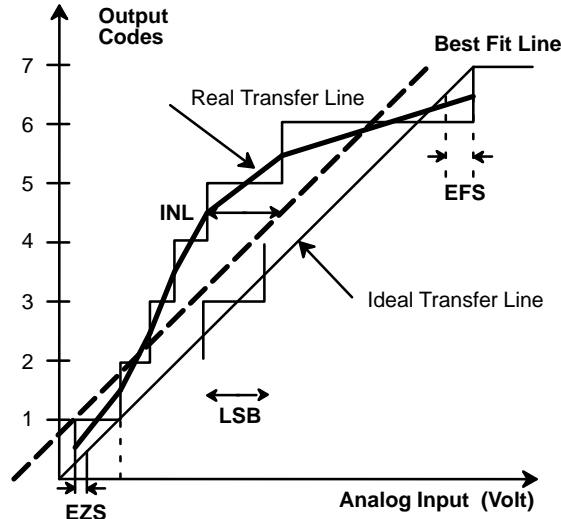

Figure 7. INL Error Calculation
- Tester measures code transition voltages by dithering the voltage of the analog input ( $V_{IN}$ ). The difference between the measured code width and the ideal value ( $V_{REF}/1024$ ) is the DNL error (see Figure 4.). The INL error is the maximum distance (in LSBs) from the best fit line to any transition voltage (see Figure 7.).
Figure 7. gives a visual definition of the INL error. The chart shows a 3-bit converter transfer curve with greatly exaggerated DNL errors to show the deviation of the real transfer curve from the ideal one.